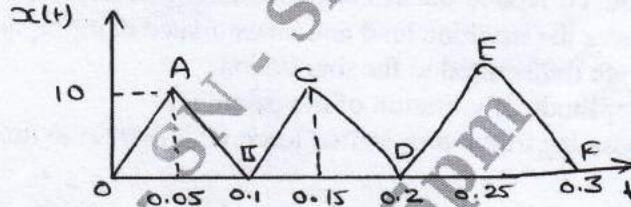

Fig.Q2(a)
- 2 a. Determine the Fourier series for the curve shown in Fig.Q2(a).